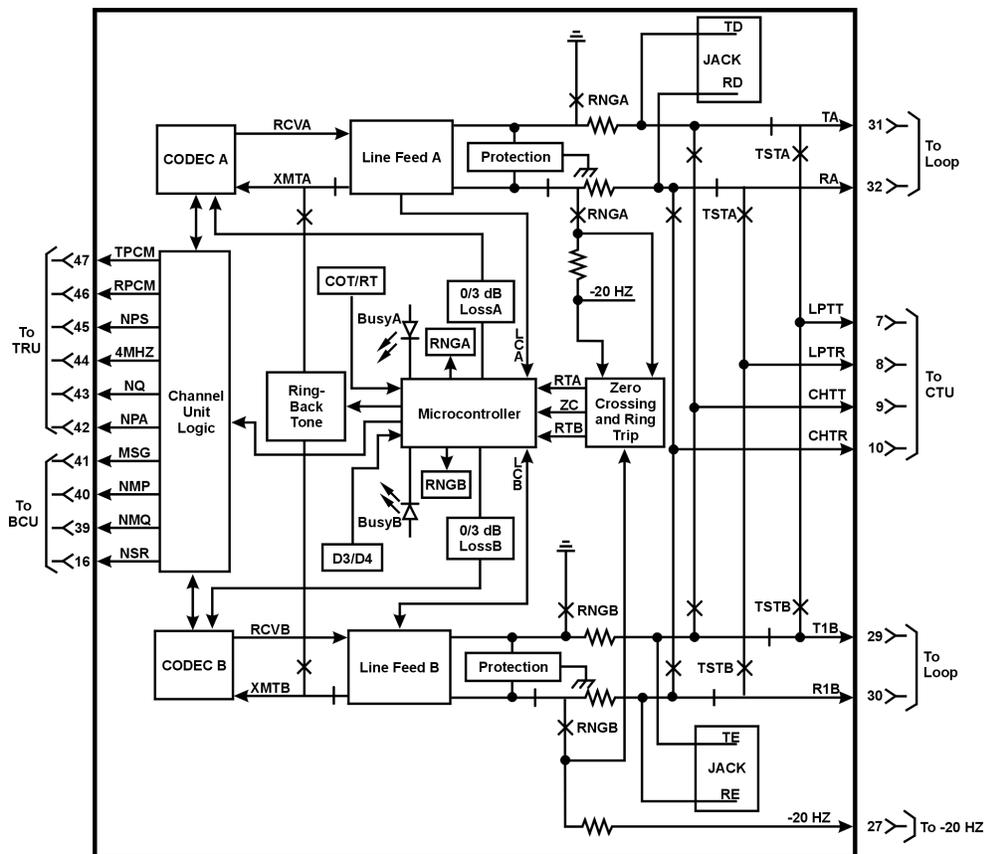
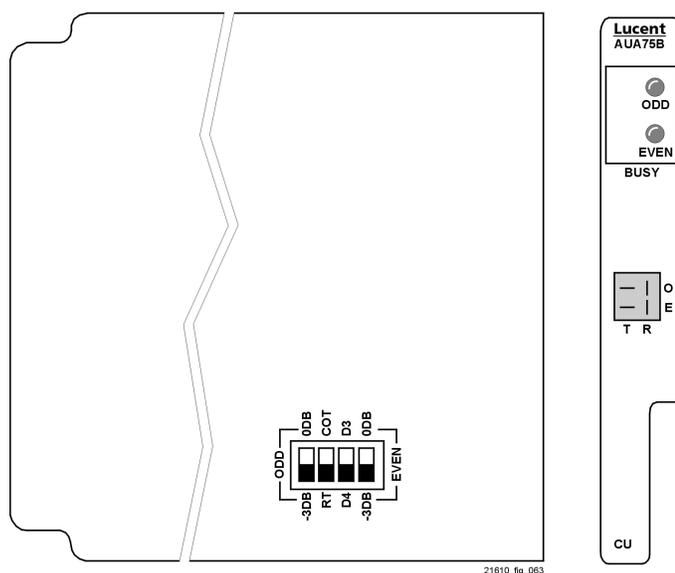

Figure 1. AUA75() Block Diagram
Figure 2. AUA75() Components and Faceplate
Figure 1 is a functional block diagram of the unit and Figure 2 shows the components and faceplate.
- Step 2. On dual PLAR CU at COT, set option switch **COT/RT** (Figure 2) to the **COT** position.
- Step 3. On dual PLAR CU at COT, set option switch **D3/D4** (Figure 2) to the **D4** position.
- Step 4. On dual PLAR CU at RT, set option switch **COT/RT** (Figure 2) to the **RT** position.
- Step 5. On dual PLAR CU at RT, set option switch **D3/D4** (Figure 2) to the **D4** position unless this is an INA (Integrated Network Access) system and both channels from this CU terminate in D3 PLAR CUs in a remote D3 bank.
- Step 6. On dual PLAR CU, set option switch **ODD** (Figure 2) to **0DB** or **-3DB** to agree with WORD document or facility record for the odd channel. Set option switch **EVEN** (Figure 2) to **0DB** or **-3DB** to agree with WORD document or facility record for the even channel.